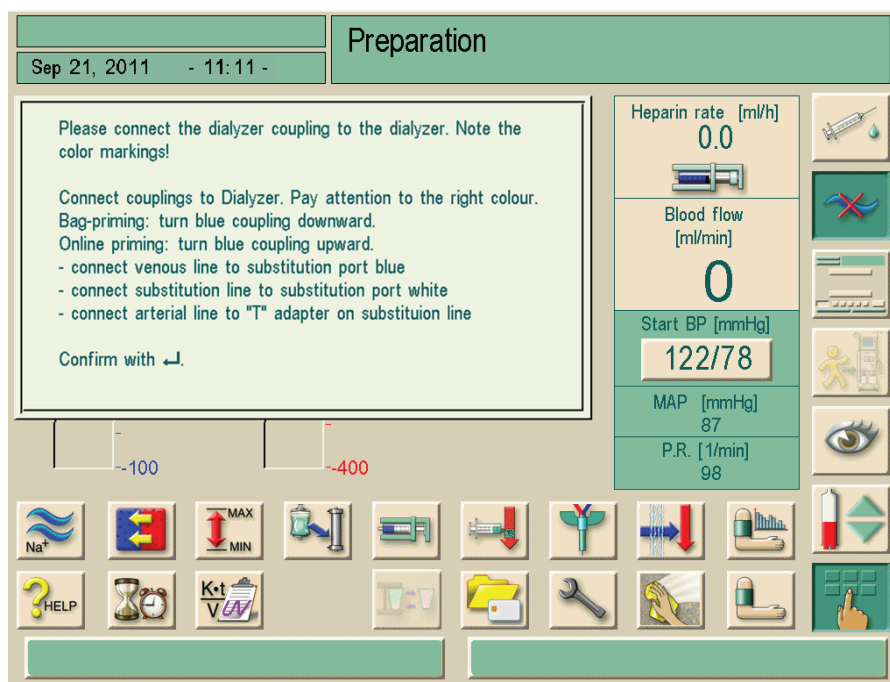

Fig. 9-4 Information window for connection
↳ The confirmation window (Fig. 9-4 Information window for connection (148)) appears.